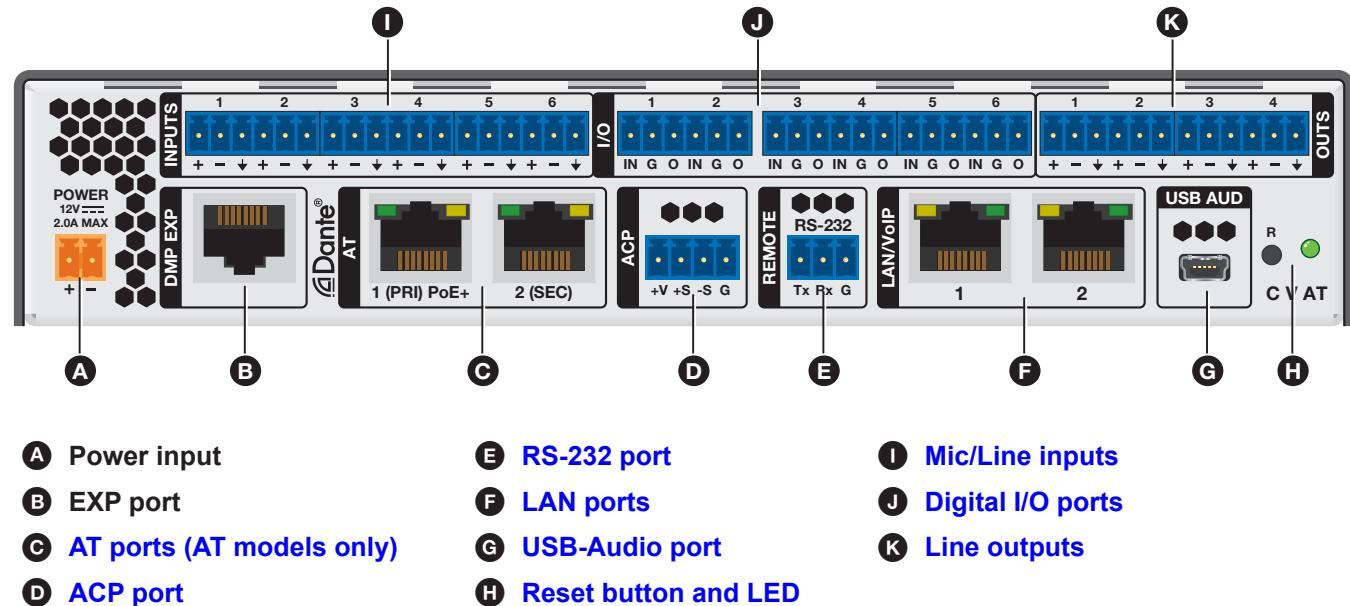
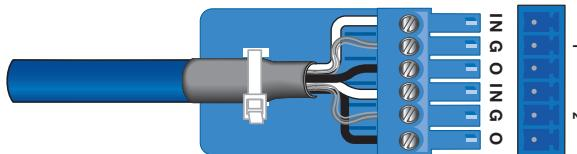

Figure 2. Rear Panel Features
Figure 6. Digital I/O Connector
- C AT ports (AT models only)** (see figure 2 on page 4) — Two RJ-45 ports form a Gigabit switch that interfaces with the AT bus. The AT expansion bus uses Dante protocol for digital audio networking and allows DMP 64 Plus AT models to connect with other Dante-enabled devices to form a larger matrix (see Dante Controller on page 21 for details on the software required to configure the AT expansion bus).
- G** **USB Audio port** (see **figure 2** on page 4) — Connect a Windows® or Mac® computer to this USB mini-B port to interface with the DMP 64 Plus as a USB audio device (see **Configure USB Audio** on page 17 or the *DSP Configurator Help File* for details on configuring the USB audio). Audio sample rate is 48 kHz/16 bit.
- J** **Digital I/O ports** (see figure 2 on page 4) — Connect three 6-pole 3.5 mm captive screw connectors (see figure 6 for wiring details). These configurable digital input and output ports are designed to connect to microphones with logic circuitry for mic mute and tally back functionality. Each port provides a common ground (see Configure Digital I/O on page 17 or the *DSP Configurator Help File* for configuration details).